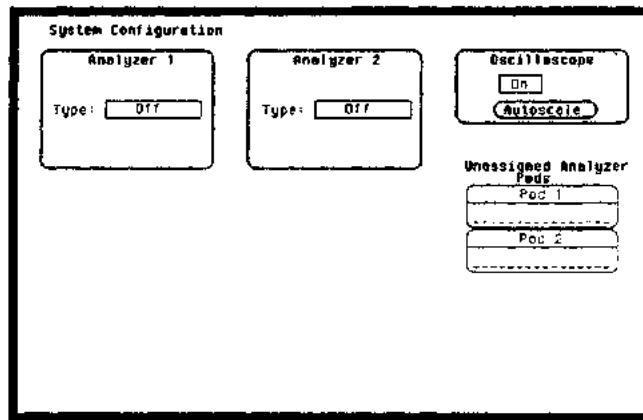

Figure 3-44. System Configuration
4. Unassign all of the pods from the analyzers as shown in figure 3-44. Refer to steps a through c if you are unfamiliar with menus.
2. In the **System Configuration** menu, turn both State/Timing Analyzers off, unassign all of the pods from the analyzers, and turn the oscilloscope on as in the previous test figure 3-44.